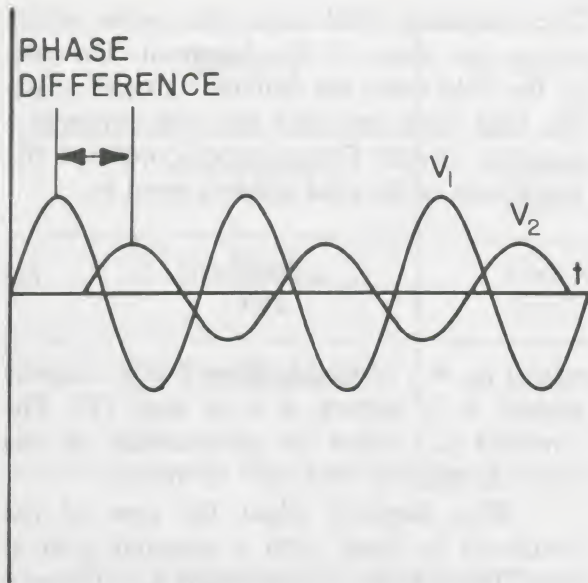

Figure 13A. Two voltages which are not in phase.
6. Perhaps the most surprising observation in Experiment A-2 is that the sum of the rms voltages across the individual elements in a series AC circuit *is not* equal to the rms voltage output of the source of AC voltage. However, if we were able to measure the voltage drop across each element at the same instant in time, the sum *would* equal the voltage output of the source at that instant. Evidently, the various voltages do not alternate in such a way that they all reach their peak values simultaneously. We say that such voltages are not *in phase*. (See Figure 13A.)